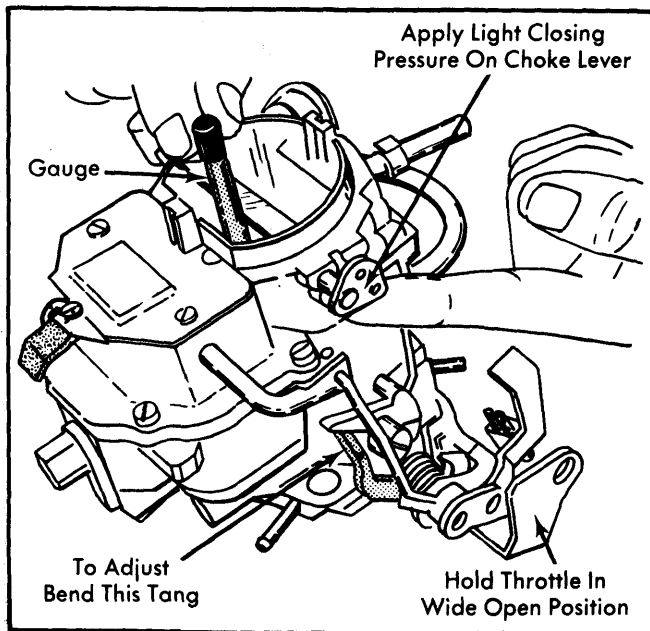

Fig. 8 Choke Unloader Adjustment
- 1) Open throttle valves wide open. Apply a light closing pressure to choke valves. See Fig. 8.